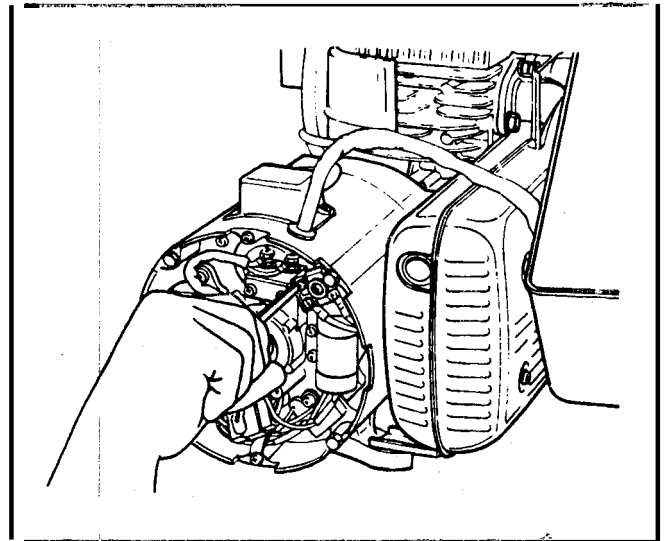

Figure 149
8. Reconnect the AC output wires on the terminal block. Be sure to match the color coding. See Figure 149.